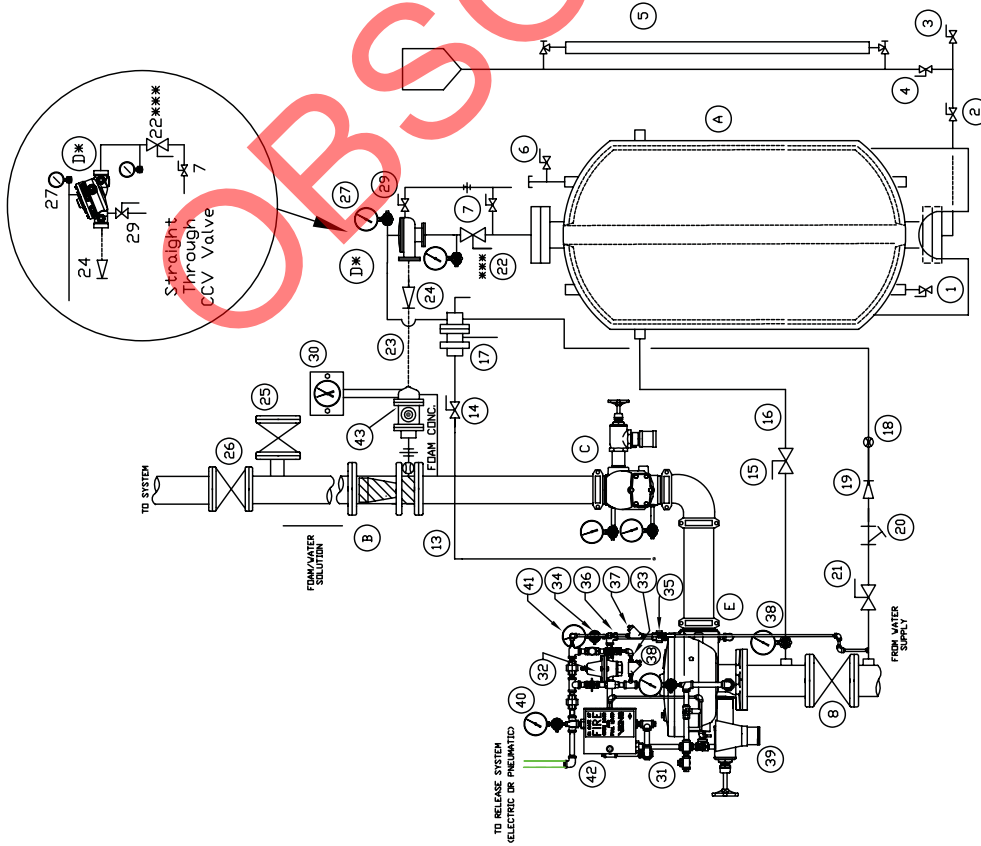

Figure 32A
2. Install the flow control valve with pilot pressure regulating deluge trim and the Easy Riser® check valve in accordance with the Viking Engineering and Design Data book and Figures 32A, B or C.
4. Install foam solution test valve (25) and system isolation valve (26), if they are required at these locations. These valves are shown in an optional location based on the concentrate controller being downstream of the system riser valve. These test valves are required in accordance with NFPA 16 and NFPA 16A.
6. Install bladder tank (A) in accordance with the manufacturer's instructions with connections as shown in Figures 32A, B or C and herein described.